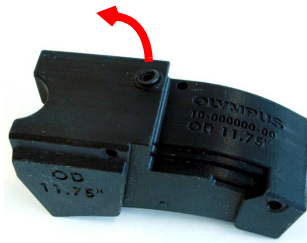

Figure 5-5 Changing the o-ring seal for the water connection
1. Use an appropriate tool such as a small flathead screwdriver to carefully lift and pull off the old o-ring seal without damaging the mounting surface (see Figure 5-5 on page 50).